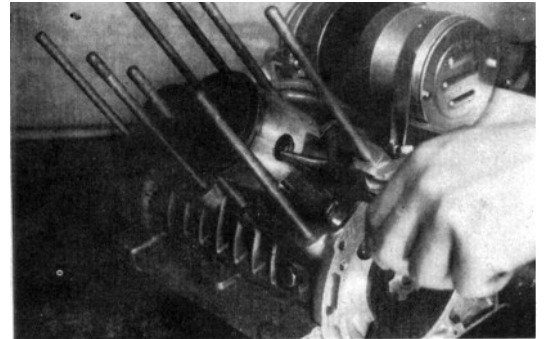

Fig. 25 Removing piston pin circlips
13. Remove piston-pin circlips and then piston pins, pistons and needle hearings. (Fig. 25)